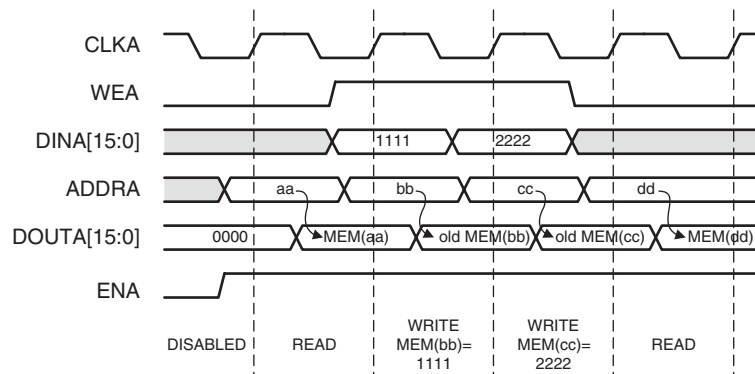

Figure 9: Read First Mode Example
- **Read First Mode:** In READ_FIRST mode, data previously stored at the write address appears on the data output, while the input data is being stored in memory. This read-before-write behavior is illustrated in Figure 9.